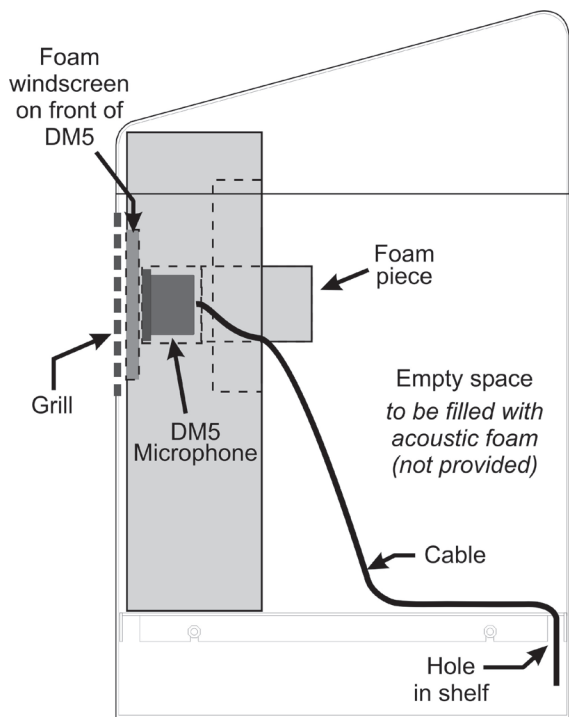

Figure 3.
- Place the foam windscreen in front of the microphone, positioning it so it will cover the inside of the speaker grill, as shown in Figure 3.
- Place the microphone, in its foam enclosure, into the upper compartment of the speaker post, so the front of the foam windscreen is flush against the metal, centered on the grill, as shown in Figure 3.